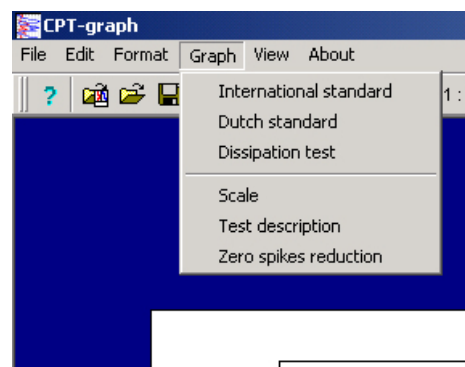

Fig. 4-12: Graph Menu
1. The presentation and printing of CPT graphs according to the **International Standard** is chosen under the Graph Menu (Fig. 4-12) and is described above, 4.2.1, Opening a File, Graph Setting.